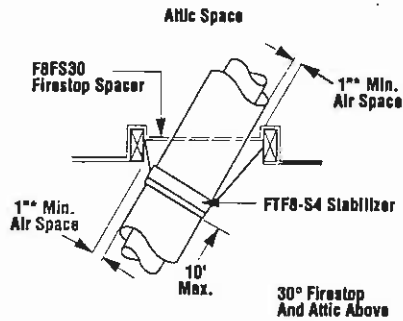
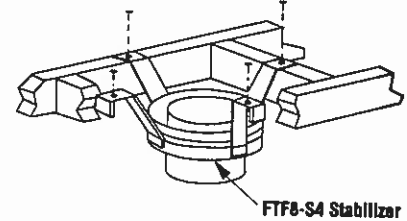

Figure 21
Figure 26
It may be necessary to assemble the chimney at 30° when passing through the floor or ceiling area. Use the F8FS30 firestop spacer as shown in Figures 21 and 22. Support the chimney at floor or ceiling penetration with a FTF8 stabilizer if distance of chimney below ceiling is 10' or more. Maintain 1" minimum air space to combustibles from chimney sections.
Install the Model FTf8-S4 stabilizer by fitting inner section down into respective section of proceeding flue pipe and locking outer stabilizer section into place over the outer chimney pipe. Position for proper clearance through framed opening and nail straps securely (under tension in "shear") into place on framing. Use 8d nails. Attach successive lengths of chimney pipe directly to stabilizer using same techniques as described in Step 4 (Figure 26).
Step 1. Use Offset Chart to determine amount of horizontal offset (A) and height (B) for various chimney section assemblies.
Step 3. Use Elevation Chart as job estimator only. Add necessary firestop spacers and stabilizers as required. Firestop spacers must be used as shown in Figures 21 and 22 and stabilizers as shown in Figure 26.